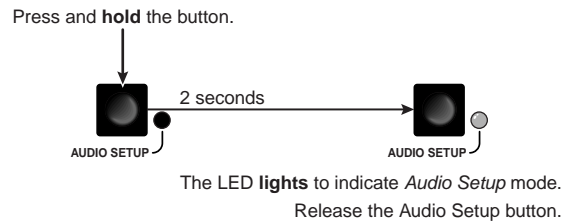

Figure 3-32 — Select Audio Setup mode
1. Press and **hold** the Audio Setup (I/O) button for approximately 2 seconds (figure 3-32) until the Audio Setup LED lights.